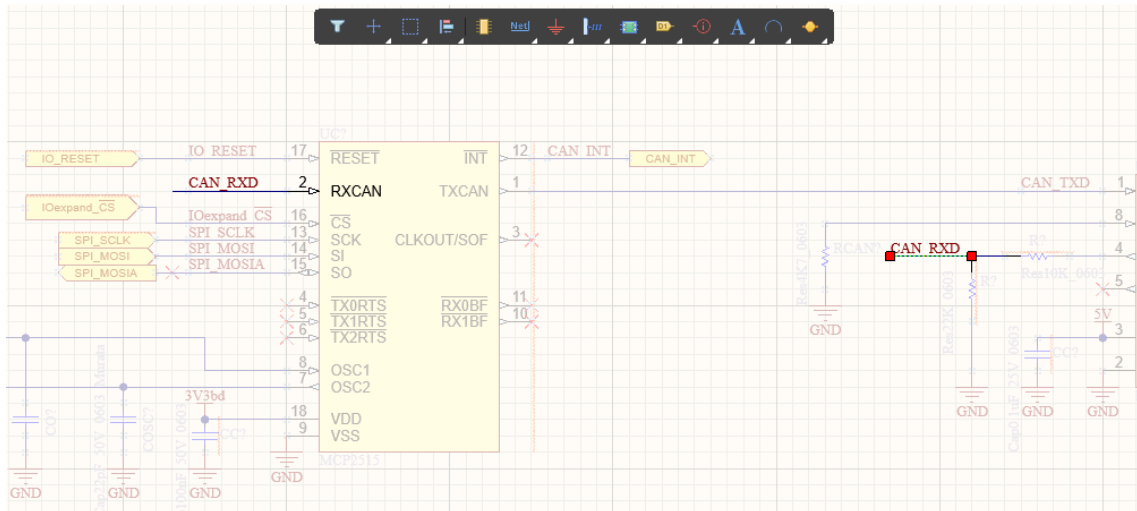

Figure 30. Active Masking to see a logical connection
34. To see the logical connection press and hold **ALT** key and select net label CAN_RXD with mouse left click, this highlights the net labels showing connections within the schematic, as shown Figure 30.